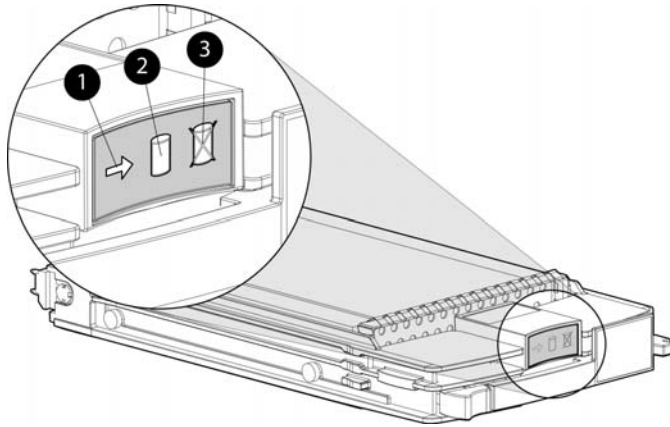

Figure 10 Disk drive status indicators
- Check the disk drive status indicators. See Figure 10.
- Activity indicator (1) should be on or flashing
- Online indicator (2) should be on or flashing
- Fault indicator (3) should be off